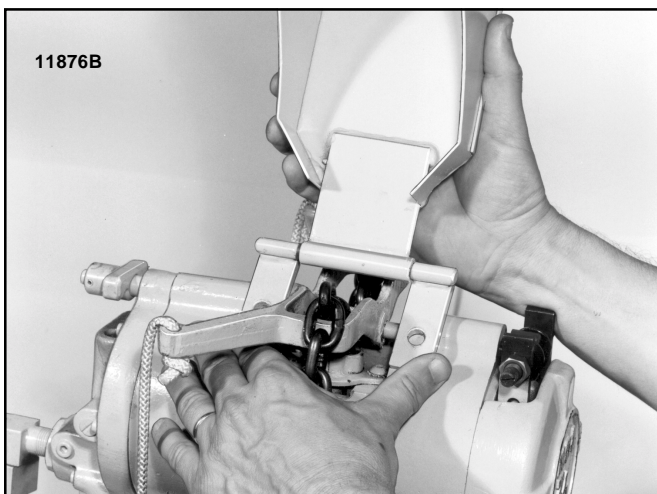

Figure 4. Positioning Container on Hoist Frame to Mark Mounting Holes
- Place inverted container (Figure 4) on hoist and use hanger bracket as a template to locate and mark holes on chain anchor side of frame. Container bracket must straddle control lever with its inner edges equally spaced over inner faces of control shaft bosses. The hinge must be centered over chain openings and control shaft and positioned so that it is parallel with the control shaft and directly below it when hoist is upright. Check position by moving control lever as far as it will go in both directions to make sure hinge does not restrict lever movement. Then mark holes on sides of control shaft bosses at bottom of frame.